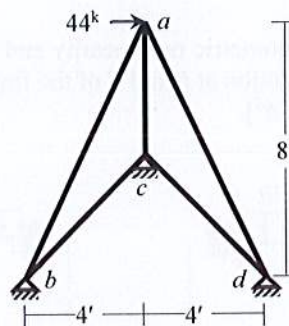

Fig.9
8. For the 2D truss  $abcd$  loaded as shown in Fig.9,